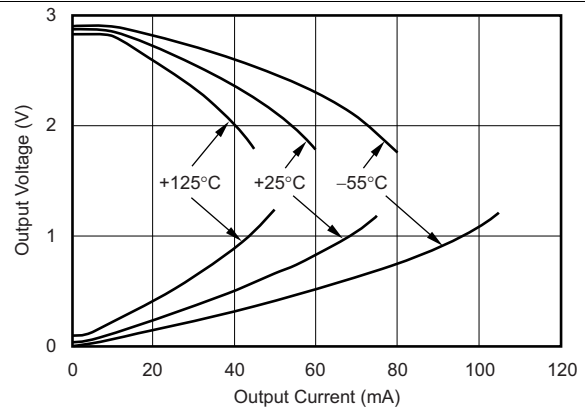
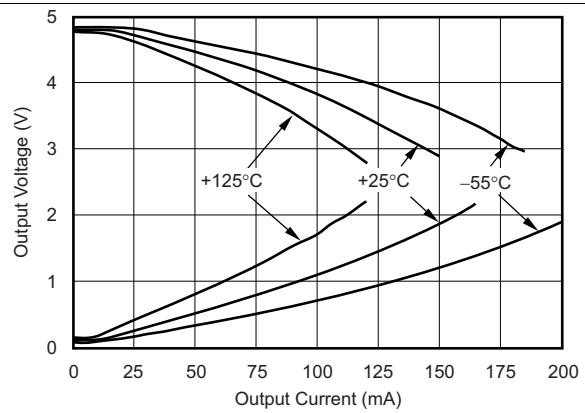

Figure 20. Output Voltage Swing vs Output Current for  $V_S = 3\text{ V}$
Figure 22. Output Voltage Swing vs Output Current for  $V_S = 5\text{ V}$
(1) See typical characteristic curves, *Output Voltage Swing vs Output Current* (Figure 20 and Figure 22).
(2) Specified by design.
A class AB output stage with common-source transistors is used to achieve rail-to-rail output. For high-impedance loads ( $> 200 \Omega$ ), the output voltage swing is typically 100 mV from the supply rails. With 10- $\Omega$  loads, a useful output swing can be achieved while maintaining high open-loop gain. See the typical characteristic curves, Output Voltage Swing vs Output Current (Figure 20 and Figure 22).
The OPA354 output stage can supply a continuous output current of  $\pm 100$  mA and yet provide approximately 2.7 V of output swing on a 5-V supply, as shown in Figure 30. For maximum reliability, TI does not recommend running a continuous DC current in excess of  $\pm 100$  mA. Refer to the typical characteristic curves, Output Voltage Swing vs Output Current (Figure 20 and Figure 22). For supplying continuous output currents greater than  $\pm 100$  mA, the OPA354 may be operated in parallel, as shown in Figure 31.